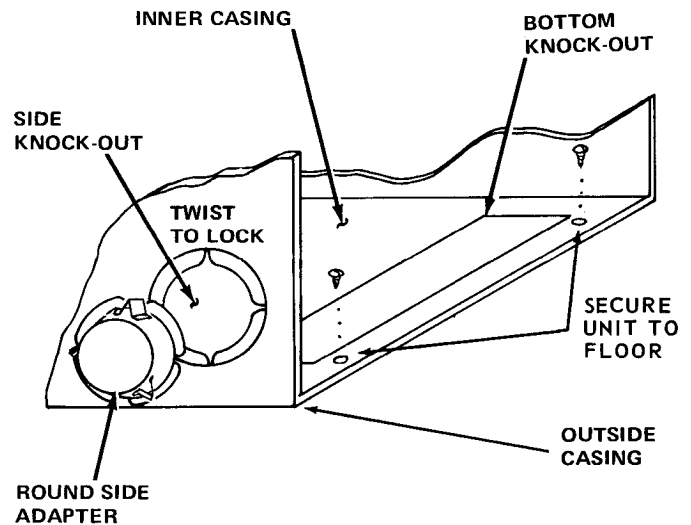

Figure 6
3. Position the heater flush with the inside wall of the vehicle so that the elliptical connector on the back of the furnace aligns with the 4" x 6" opening made in step 2 above. Secure the unit to the floor, as shown in Figure 6.
5. When the unit is installed for side discharge operation, it is recommended that the duct size be no smaller than 4 inches in diameter. Provision has been made for a quick-connect round side adapter for ease in connecting the 4-inch diameter ducting to the furnace. The quick-connect adaptor is a twist-on device and is installed as demonstrated in Figure 6. Only 1/8 of a turn is required for locking and sealing.
8. Place the furnace with floor thimble attached over the floor opening and position so that the tabs on the thimble extend downward into the underfloor duct. From inside the furnace bend tabs under to secure the thimble to the duct. **(The unit must be secured to the floor. See Figure 6.)**
3. Position the heater flush with the inside wall of the vehicle so that the elliptical connector on the back of the furnace aligns with the 4" x 6" opening made in step 2 above. Refer to Figure 11 and make certain that the minimum clearances to ceiling and side walls are maintained as shown. Secure the unit to the floor. See Figure 6.